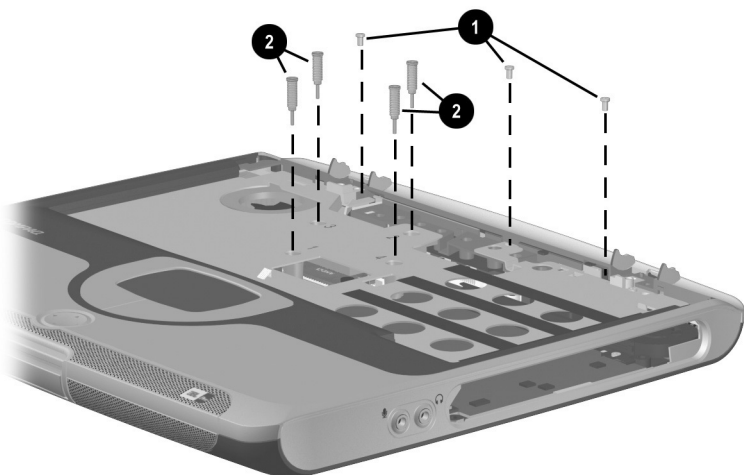

Figure 5-25. Removing the Heat Spreader Screws
2. Remove the three silver TM2.0 \times 5.0 screws ❶ that secure the heat spreader to the base enclosure (Figure 5-25).
3. Remove the four silver TM2.0 \times 20.0 spring-loaded screws ❷ that secure the heat spreader to the base enclosure.